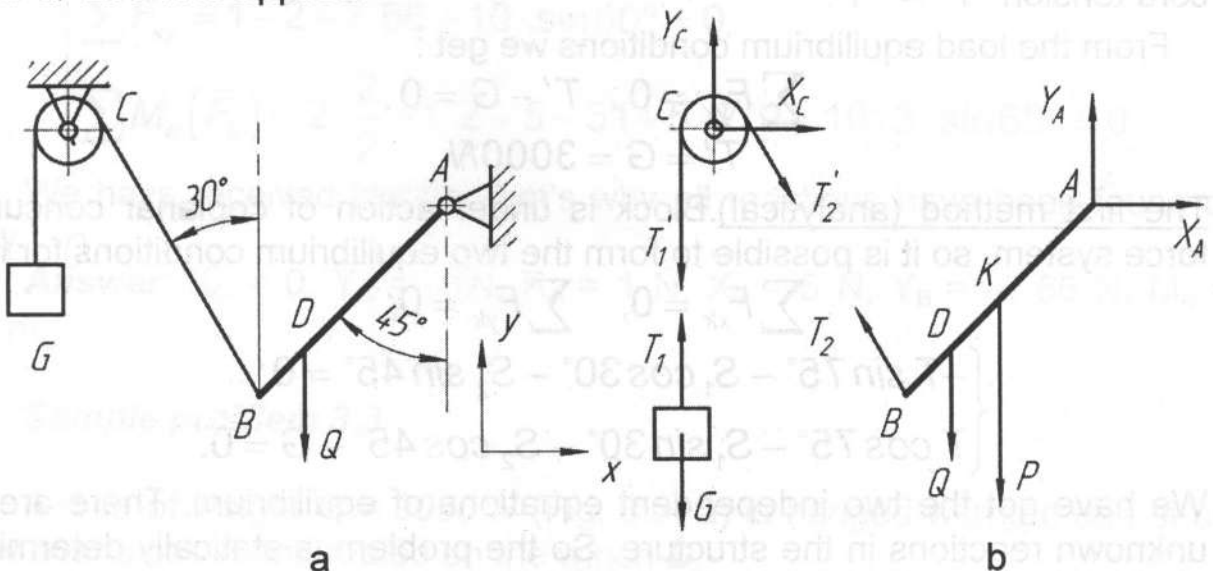

Fig. 3.5
The homogeneous rod  $AB$  of length  $l$  and weight  $P = 100 N$  is fixed to a wall by pin  $A$  (Fig. 3.5, a) and is held at an angle  $45^\circ$  with by cord which passes over a fixed pulley  $C$ , the load of weight  $G$  is attached to the cord. The cord branch  $BC$  makes an angle  $30^\circ$  with vertical. At the point  $D$  ( $AD = 0,75 \cdot l$ ) the force  $Q=200 N$  is applied.
2. Form FBD for each part of the system (Fig. 3.5, b). The rod AB is under action of weight  $\vec{P}$ , applied force  $\vec{Q}$ , reactions  $\vec{X}_A, \vec{Y}_A$  that are caused by pin joint at the point A and cord tensile load  $\vec{T}_2$ . The block is under action of reactions  $\vec{X}_C, \vec{Y}_C$  that are caused by pin joint at the point C and cord tensile loads  $\vec{T}'_1, \vec{T}'_2$ . The load is under action of weight  $\vec{G}$ , cord tensile load  $\vec{T}_1$ .